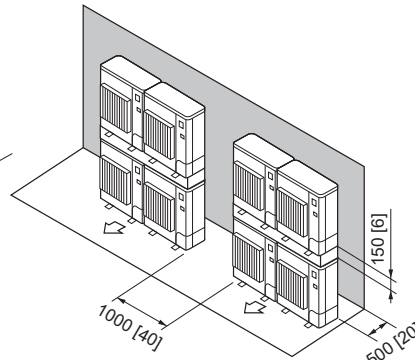

Fig. 2-18
7. Stacked unit arrangement (Fig. 2-18)